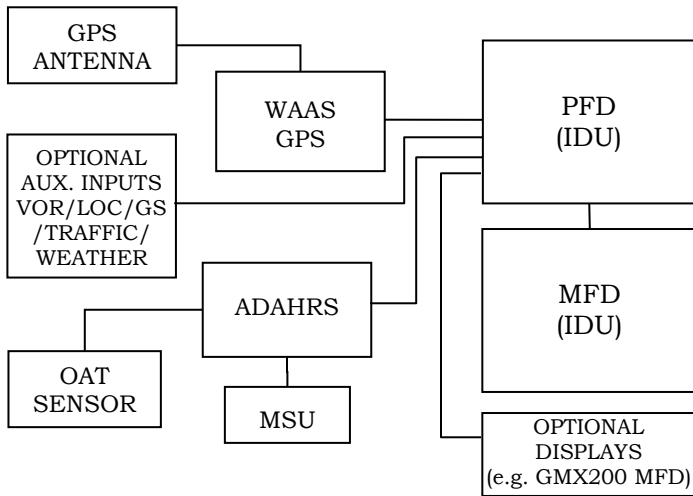

Figure 5-10-3. System Block Diagram
1. The Chelton Flight Systems EFIS configuration consists of two IDUs, an Air Data Attitude Heading Reference System (ADAHRS), and a Wide Area Augmentation System-Global Positioning System (WAAS-GPS). The IDUs are configured as a Primary Flight Display (PFD) (top display) and a Multi-Function Display (MFD) (bottom display). The PFD receives input from the WAAS-GPS, ADAHRS, and optional auxiliary inputs. The MFD receives input from the PFD. The system inter face is shown in Figure 5-10-3.